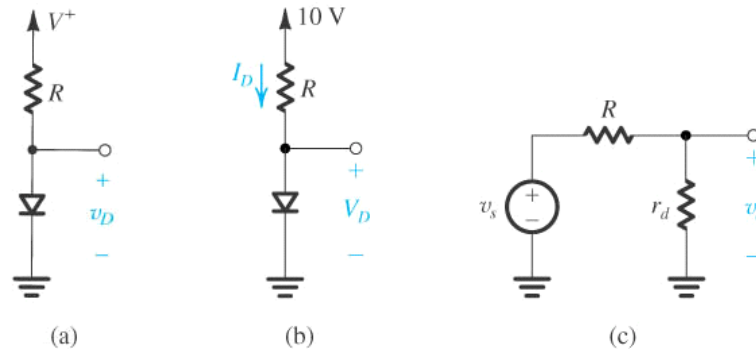

Figure 5.16: Example of separating small signal analysis from dc analysis.
Example 5.4 Consider the circuit shown in Figure 5.16 (a) for the case in which $R = 10K\ \Omega$. The power supplier V^+ has a dc value of $10V$ on which it is superimposed a $60Hz$ sinusoid of $1-V$ peak amplitude. Calculate the dc voltage of the diode and the amplitude of the sine-wave signal appearing across it. Assume the diode to have a $0.7-V$ drop at $1-mA$ current and $n=2$.
1. Consider dc signal only as in Figure 5.16 (b), the dc current of the diode is
3. Now we remove the dc source and replace the diode with incremental resistance as in Figure 5.16 (c). Then, the peak amplitude of v_d can be calculated as follows.